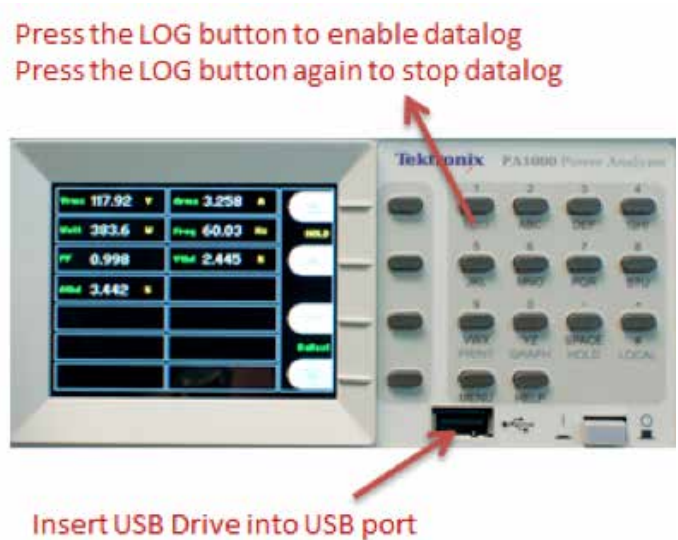

Figure 21. Datalog from PA10006.
- To log data to a USB memory device, plug it in to the front panel USB port. The “Normal” Label on the right corner of the display screen will momentarily change to “USB RDY” to indicate that the PA1000 is ready to start recording data. Refer to Figure 21.